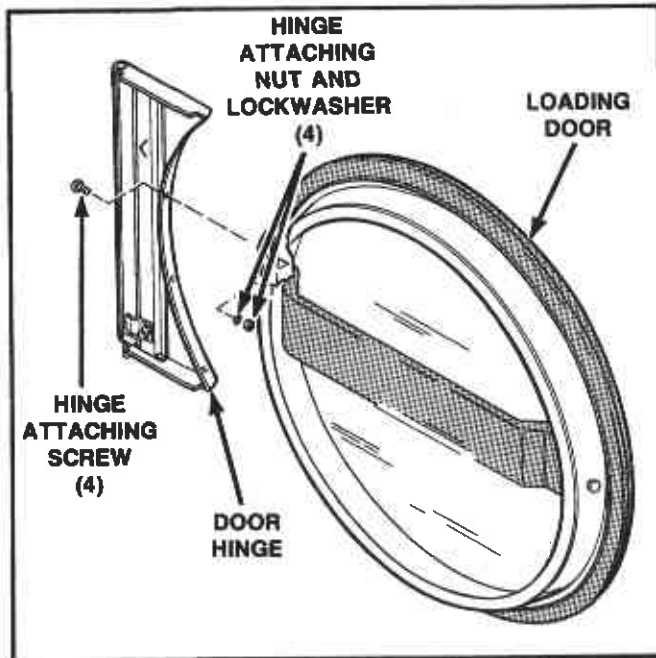

Figure 2
### 3. DOOR HINGE (Figure 2)
- b. Remove nuts and screws holding hinge to door frame, *Figure 2*.